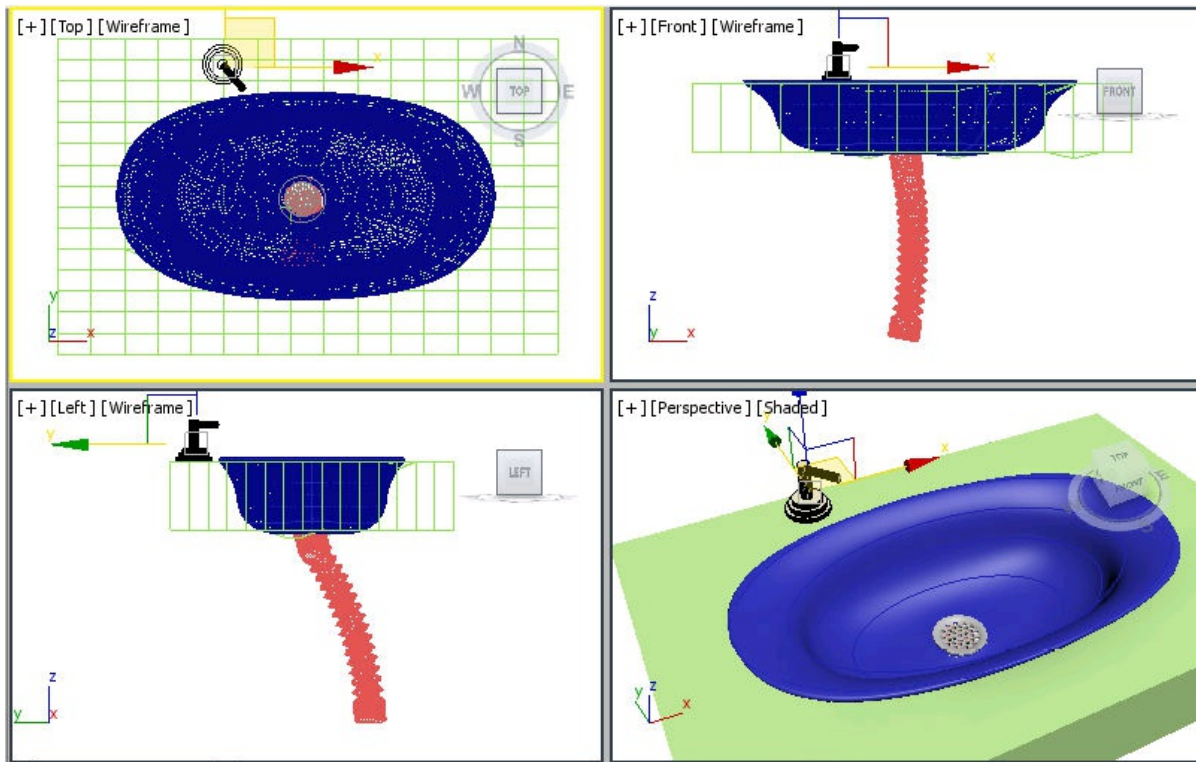

Figure 10-76 The *tap01* geometry created and aligned in viewports
3. Align the cylinders using the **Select and Move** and **Select and Rotate** tools, as shown in Figure 10-76. Also, group all of them and name the group as *tap01*.